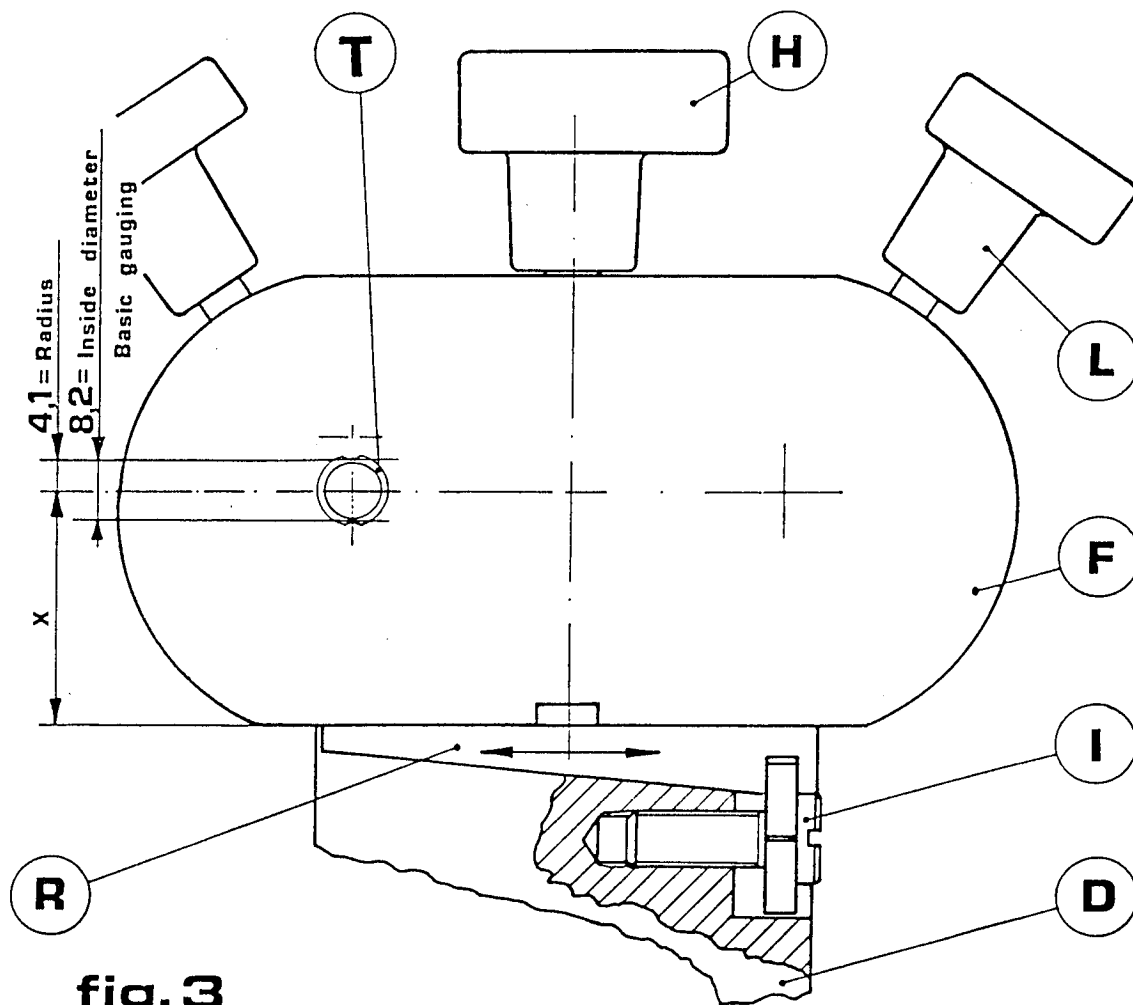

fig. 3
The machine gauging requires (as shown in fig. 3) a distance (X) between the top surface of the wedge (R) and the rotation axis of the key (T) in the device (F), and a 0.167 in. (4.1 mm.) radius corresponding to a key, inside diameter of 0.334 in. (8,2 mm.) and corresponding to the zero on the setting plate (P). However, it may happen that a key has an inside diameter larger (ex. CHICAGO MASTER 0.353 in. (8.65 mm.)) or smaller (ex. FORT MASTER 0.311 in. (7.62 mm.)) than the optional one. In this case, proceed as follow:
- 1) Loosen the knob (H).
- 2) Using a screwdriver, rotate the screw (I) clockwise or counter clockwise as required, bearing in mind that each complete turn of the screw corresponds to a 0.004 in. (0.1 mm.) change in height.
- 3) When the necessary change has been effected, lock the knob again (H).